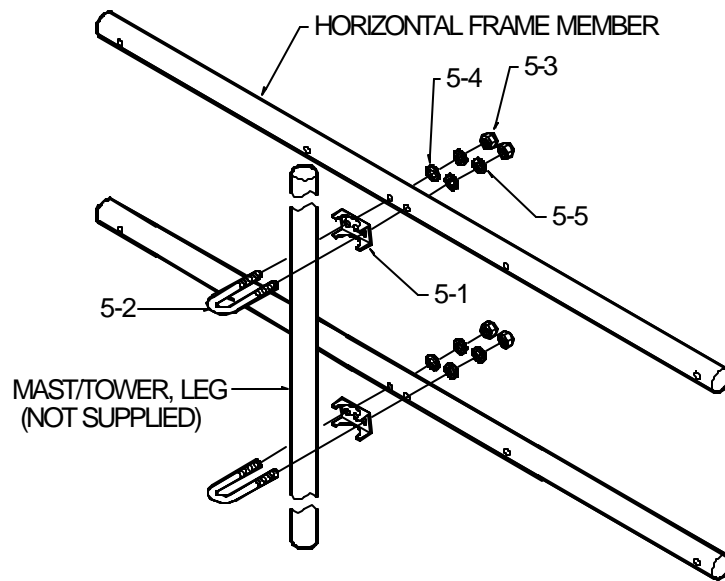

Figure 4
- a. Mount quad array as in Figure 4. Standard hardware is for 1-1/2" O.D. mast. Oversize hardware for 2", 2-1/2", 3-1/2" and 4-1/2" O.D. masts are available.